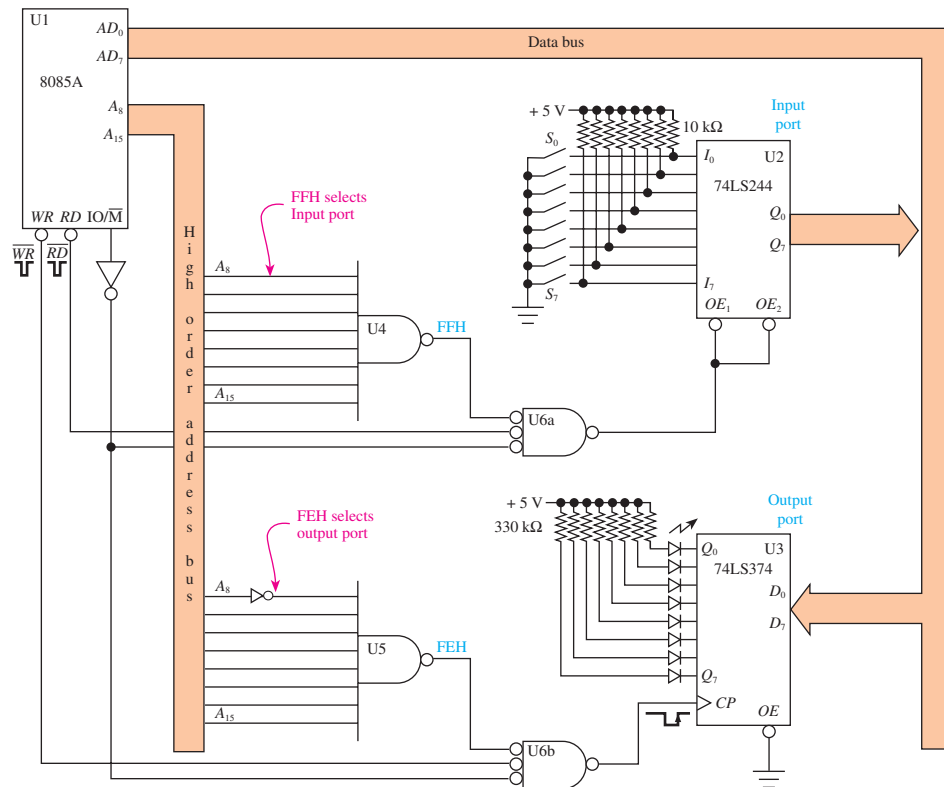

Figure 6 Hardware requirements for the IN FFH and OUT FEH instructions.
Special **hardware** external to the 8085A is required to provide the source for the IN instruction and the destination for the OUT instruction. Figure 6 shows a basic hardware configuration, using standard SSI and MSI ICs, that could be built to input data from eight switches and to output data to eight LEDs using I/O-mapped I/O.
Figure 6 is set up to decode the input switches as port FFH and the output LEDs as port FEH. The $\overline{IO/M}$ line from the microprocessor goes HIGH whenever an IN or OUT instruction is being executed (I/O-mapped I/O). All instructions that access memory and memory-mapped devices will cause the $\overline{IO/M}$ line to go LOW. The \overline{RD} line from the microprocessor will be pulsed LOW when executing the IN instruction, and the \overline{WR} line will be pulsed LOW when executing the OUT instruction.
18. What is the *port number* of the input switches and of the output LEDs in Figure 6?